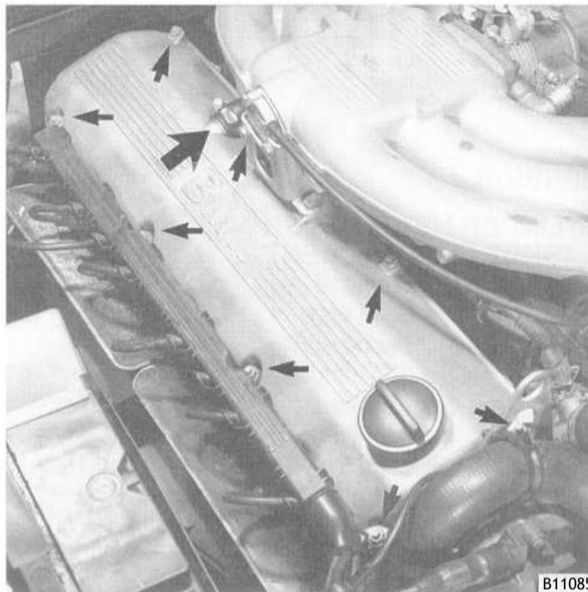

Fig. 2. Breather hose and cylinder head cover mounting nuts (arrows)
2. Disconnect the breather hose from the cover and remove the eight cover mounting nuts. See Fig. 2.